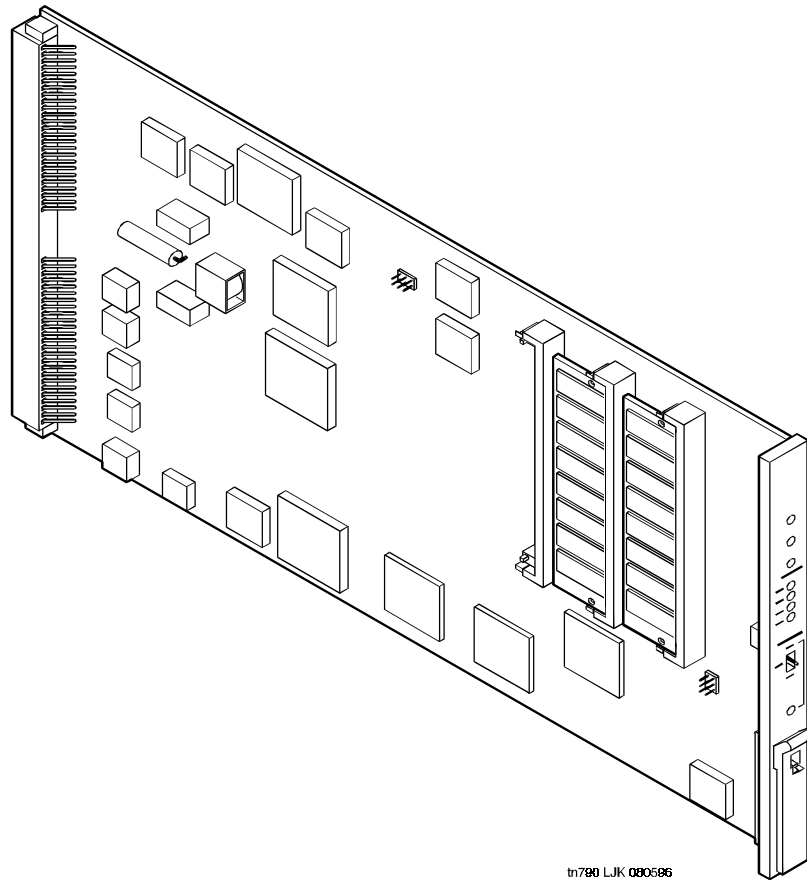

Figure 11-5. TN790 Processor Circuit Pack
3. See previous WARNING. Install the TN790 processor circuit pack into the control-cabinet slots labeled "PROCR" and "MEM". See Figure 11-5 for an illustration of the TN790 processor circuit pack.